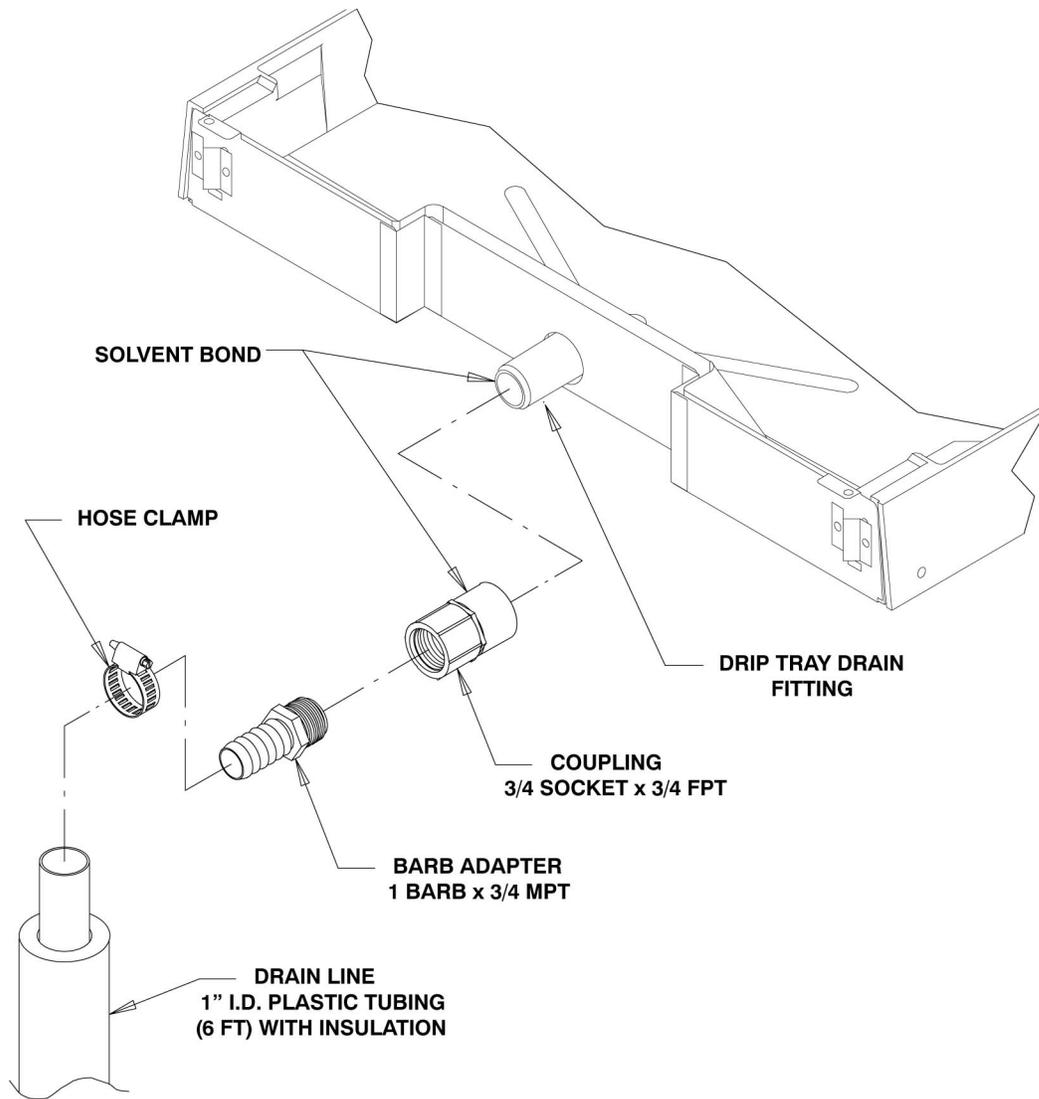

Figure 5. Drip Tray Drain Assembly
4. DRIP TRAY DRAIN ASSEMBLY (see Figure 5): Route the drain tube to an open drain with the end of the tube above the "flood" level of the drain. Use the tubing, fittings, clamps, and insulation provided with the Dispenser to assemble the drain. The completed drain line *must* pitch continuously downward and contain no "traps" or improper drainage will result.